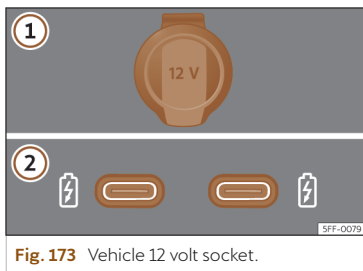

Fig. 173 Vehicle 12 volt socket.
>>> Fig. 173
Depending on the equipment and the country, the vehicle may also have USB connections **exclusively for charging or as a power socket** >>> **Fig. 173** ②.